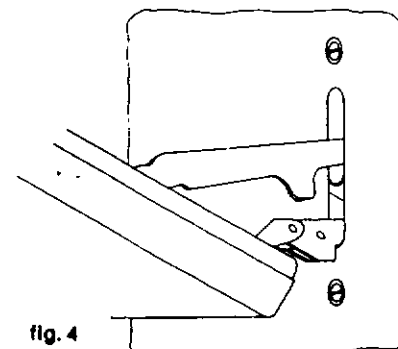

fig. 4
2. Put in the hook-shaped bracket into the upper slit in the same door position as taking off (approx. 20 cm opened). The lower bracket must be put into the lower slit at the same time (Fig. 3). Put attention to the exact catching of the lower bracket in the lower support (Fig. 4).